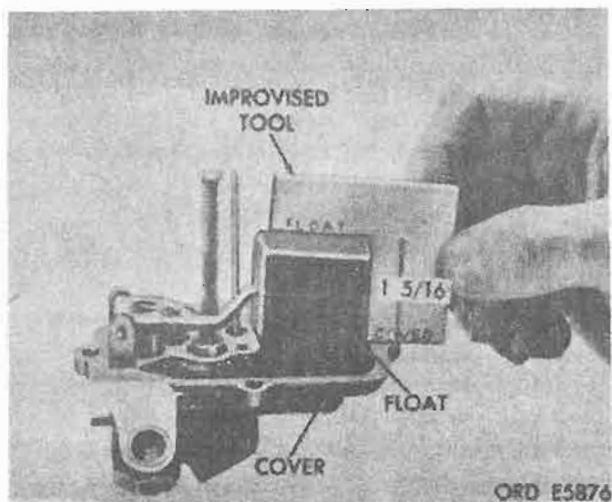

Figure 5-25. Adjusting float level.
See paragraph 5-7 (adjustment) if new fuel inlet needle is installed. Before attaching cover assembly to main body, adjust float level (fig. 5-25).
a. Before attaching cover assembly to main body, adjust float level, refer to figures 5-25 and 5-26.
(1) With gasket off carburetor and with cover inverted, use improvised tool to measure 1 5/16 in. from machined surface of cover to uppermost surface of float (fig. 5-25).